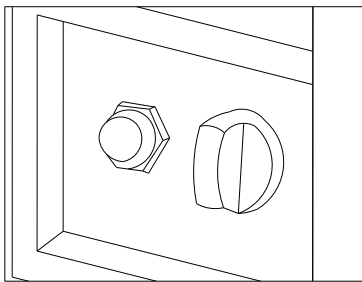
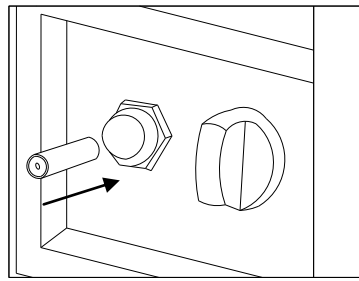

Fig 1
Fig 2
- 3- Unscrew the battery box as shown in Fig 1. Insert the negative electrode side of the battery (not included) into the bottom of battery box as shown in Fig 2. Then screw the battery box as shown in Fig 3.